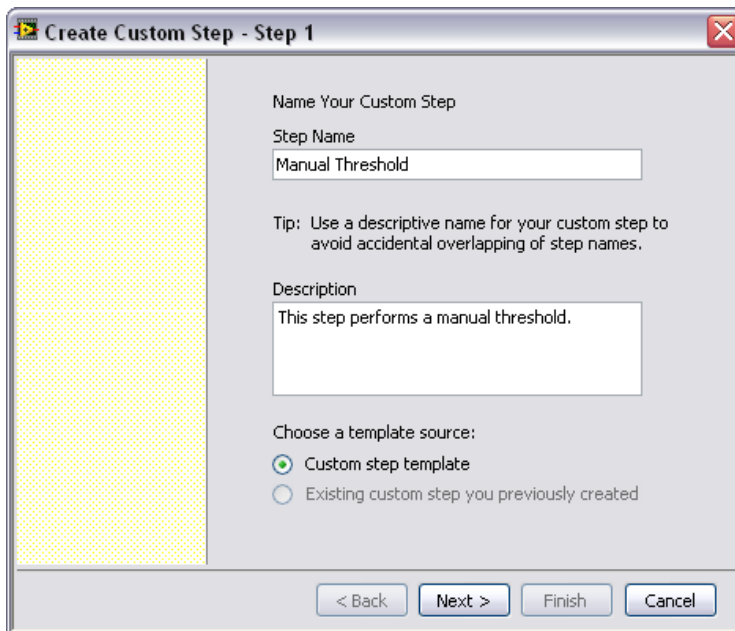

Figure 3-1. Naming a Custom Step
3. Enter `Manual Threshold` as the **Step Name** for the custom step. Figure 3-1 illustrates the Step Name text box.